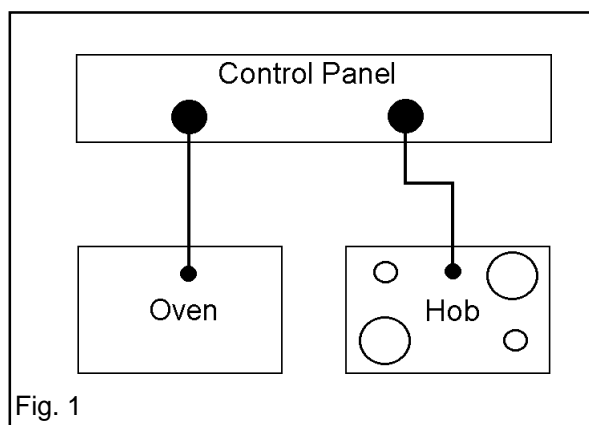

Fig. 1
- i) By connecting the oven and hob separately to the cooker point. Oven and hob units should be separately connected to a control panel. In this case the cooker should be operated from 6mm² twin core, and earth, PVC insulated multicore cable. See Fig. 1.